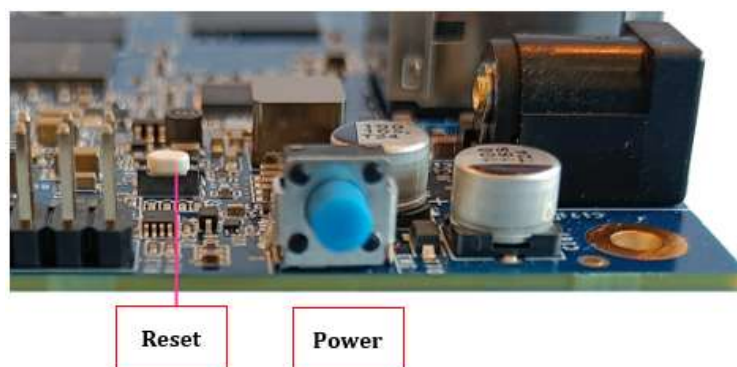

Figure 9. Hailo-15L SBC power and reset buttons
See Figure 9 for the location of the buttons.
6. Reset the Hailo-15L SBC, with the reset button. See Figure 9.